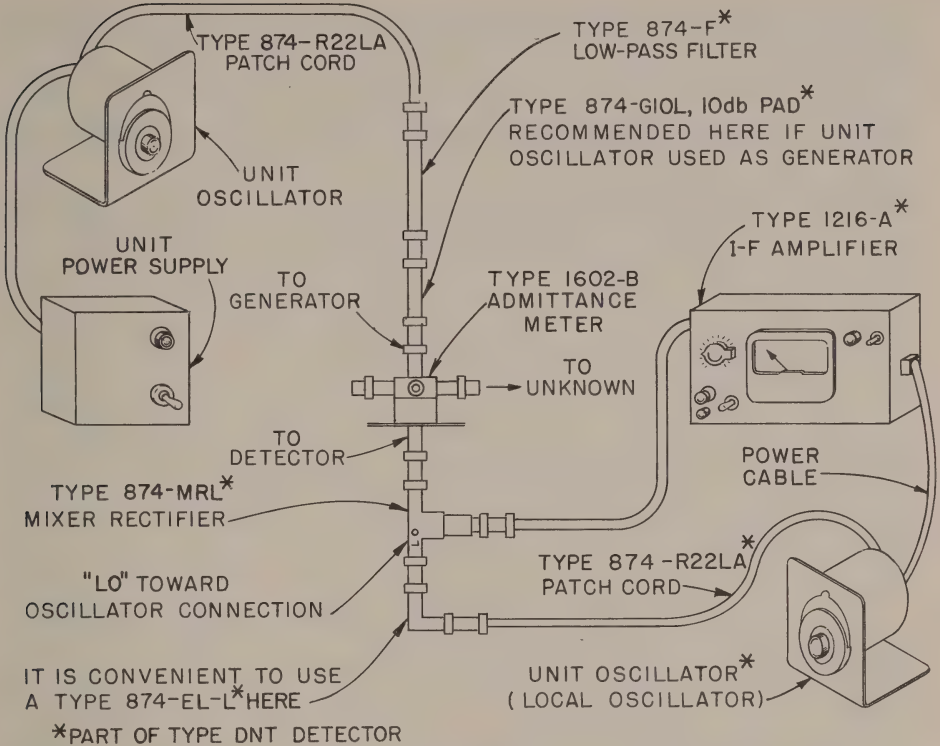

FIGURE 15
The combination of the i-f amplifier, a Type 874-MR Mixer Rectifier, and a Unit Oscillator is well suited for use as a null detector with impedance-measuring devices such as the Type 1602 U-H-F Admittance Meter. This combination is referred to as a Type DNT Detector; a typical measurement setup is shown in Figure 15. This type of detector has high sensitivity, is very well shielded, and is small and can be transported easily. For the best shielding, the Mixer Rectifier should be mounted directly on the admittance meter. It is usually convenient to use a Type 874-EL Ell, as shown in Figure 15, to route the oscillator cable away from the front of the admittance meter. The newer, smaller Type 874-R22LA Patch Cord is recommended for interconnections because of its greater flexibility rather than the older, larger Type 874-R20A.
1. Connect the units as shown in Figure 15. The ATTENUATOR switch should be set to AVC ON and the METER READS switch to I-F OUTPUT. Set the Admittance Meter to a greatly unbalanced condition in order to minimize the relative harmonic output (CONDUCTANCE arm at 20, MULTIPLYING FACTOR arm at  $\infty$ , and SUSCEPTANCE arm at zero).
2. Calculate the local-oscillator frequency at which a response will be obtained. For fundamental operation, this is 30 Mc above or below the signal frequency. For harmonic operation of the oscillator, use Equation (1).